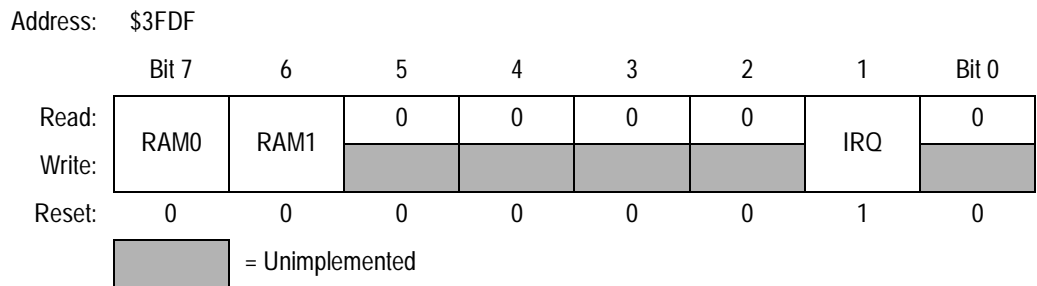

Figure 1-2. Option Register
The option register (OR), shown in **Figure 1-2**, contains the programmable bits for these options: